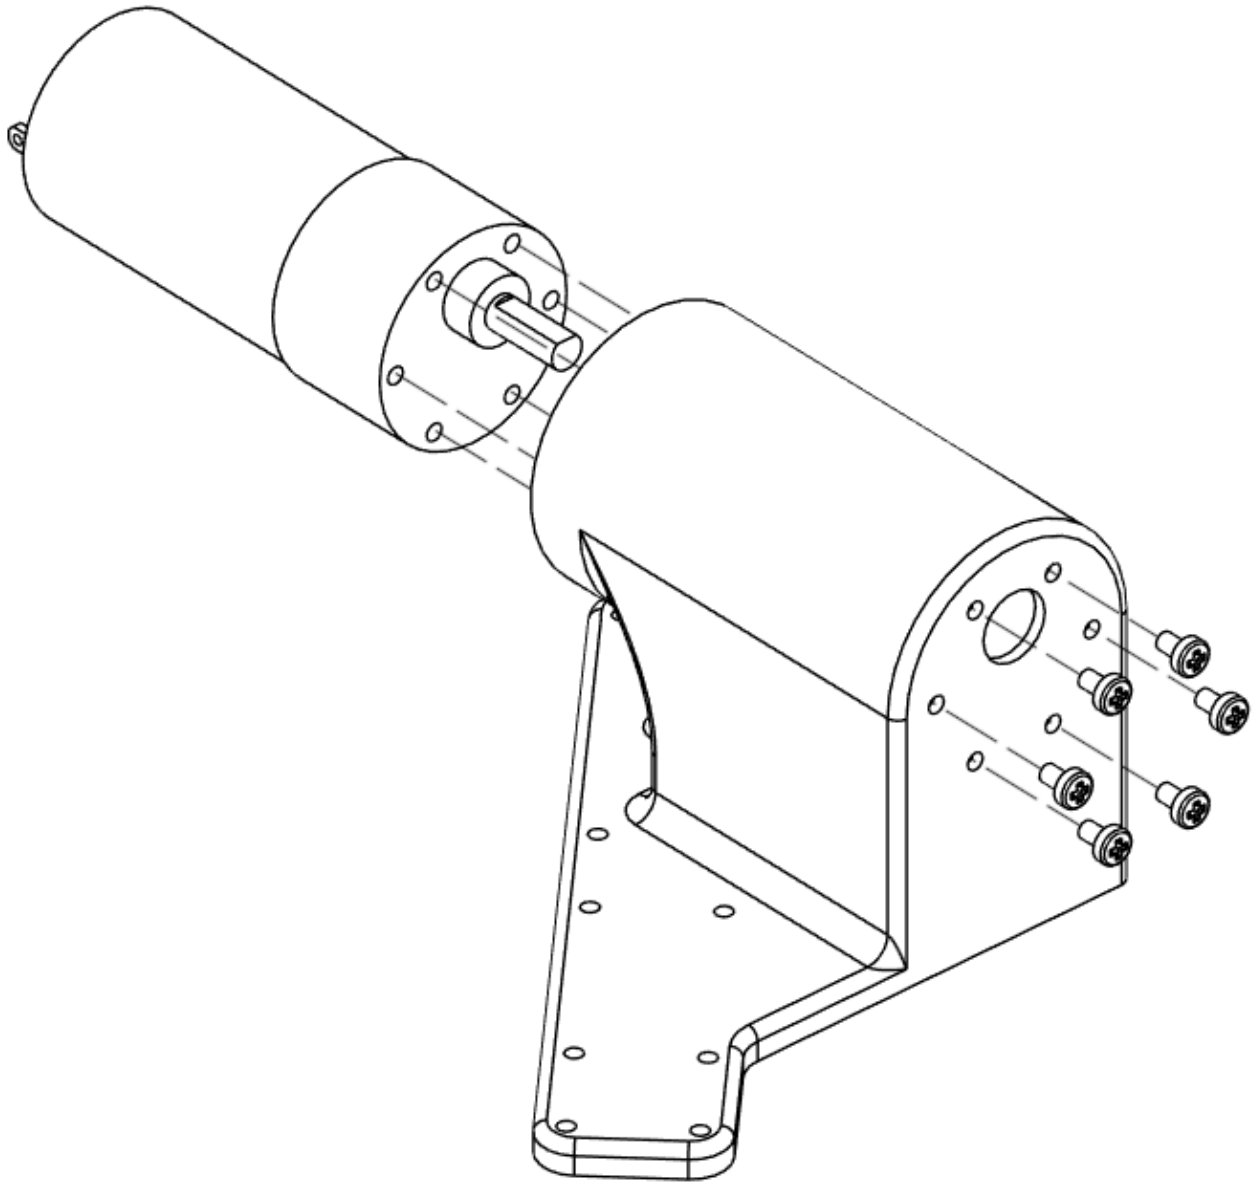
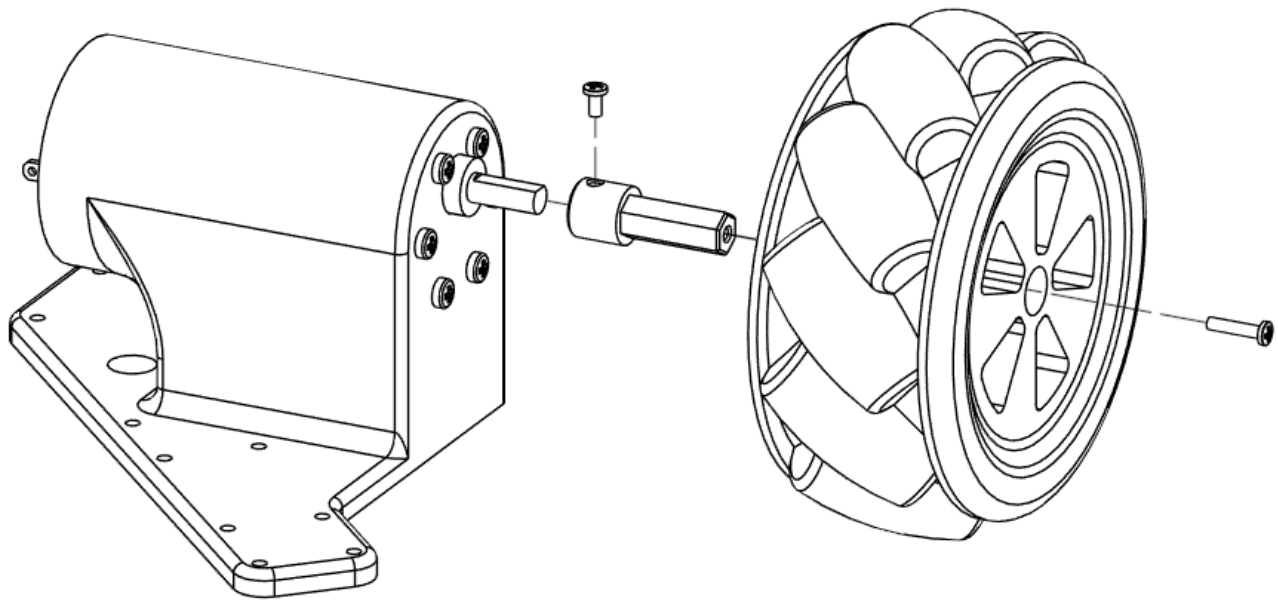

Figure 0.5 - Wheel Housing Assembly
Figure 0.6 - Wheel & Coupler Assembly
- Repeat for all (4) wheel motors
- Fasten Wheel Motor into Wheel Motor Holder as shown in Figure 0.5
- (6) M3x5mm
- Repeat for all (4) Wheel Motor Housings
3. Fasten Wheels to Wheel Motor Housings as shown in Figures 0.6 and 0.7
- e. Repeat for all (4) Wheel Housing Assemblies